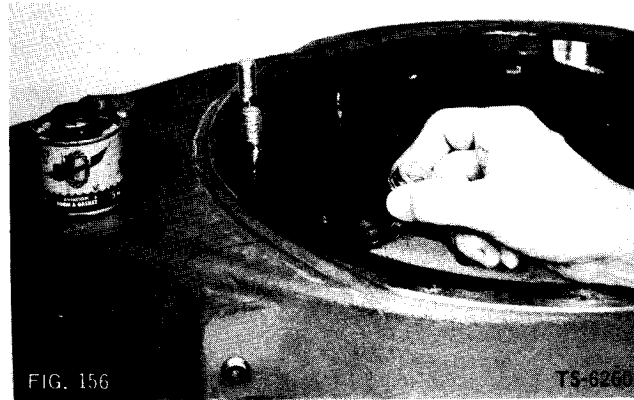

FIG. 156
1. Coat both sides of differential gasket lightly with gasket sealer and position carefully on axle housing (Fig. 156).